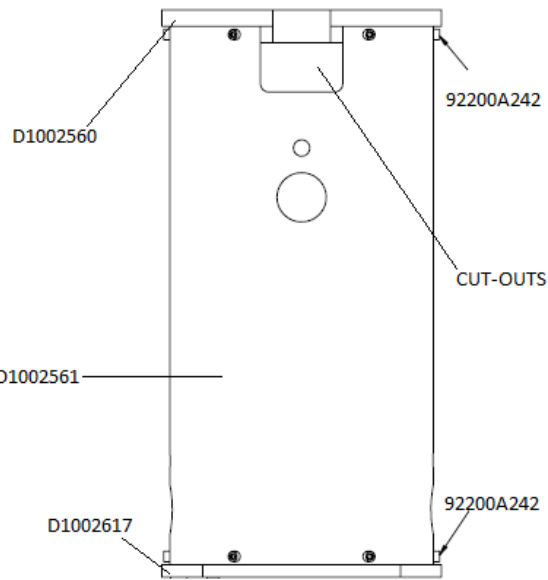

Figure 19: Eddy Current Damping Tube Assembly
1. Insert D1002560 - SLC DAMPING TUBE TOP PLATE into D1002561 - SLC DAMPING 8 INCHES DIA TUBE, see Figure 19. Align with fastener holes and cut-outs.
2. Insert D1002617 - SLC DAMPING TUBE LOWER PLATE into D1002561 - SLC DAMPING 8 INCHES DIA TUBE, see Figure 19. Top and lower plate edges should be aligned with fastener holes.